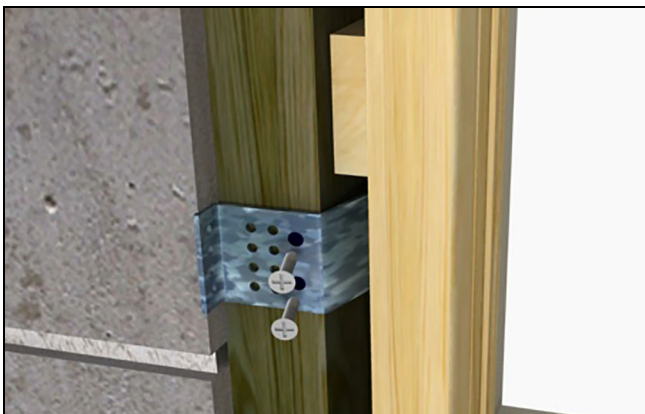

Figure 40
1. Depending on construction method or wall type, you may need to modify the clip/bracket to fit the opening. Fastening holes should be no more than 1/4" from the bend in the bracket. If necessary, drill two 5/32" (3) holes in the bracket. See Figure 40.